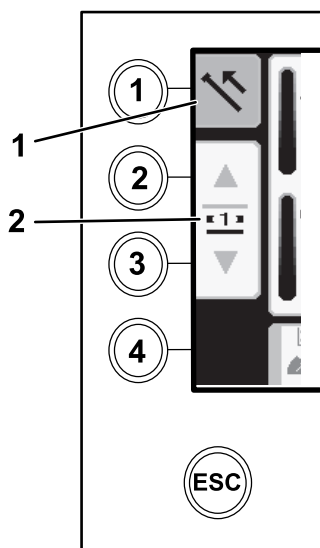

Figure 6
1. Push button 1 to select the pull pipe option (Figure 6).
2. Push buttons 2 and 3 to select the row where you want to place the pipe (Figure 6).